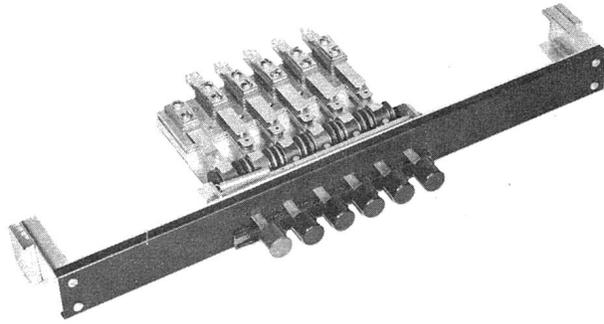
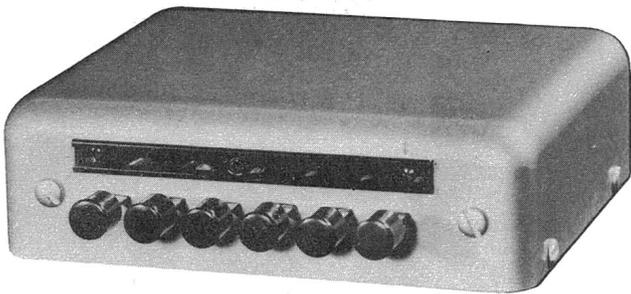
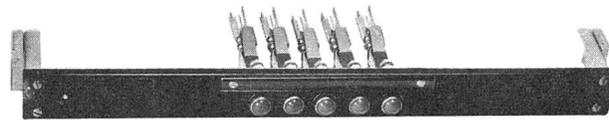

Figure 29 - GB-1042 Area Selection Key - Mounted Directly in Face of Switchboard
Figure 28A - GB-1030 Area Selection Key
Figure 30 - GB-1044 Lamp Mounting
3.52 Five area selection may be performed by using the Graybar, GB-1030 or GB-1042-type key. The GB-1030 is shown in Figures 28A and 28B and is designed for surface mounting. The GB-1042 (see figure 29) is similar to the GB-1030 except that it mounts directly in the face of the switchboard. Busy lamp indication may be provided with the GB-1042 key by using a GB-1044 lamp mounting. (See figure 30)